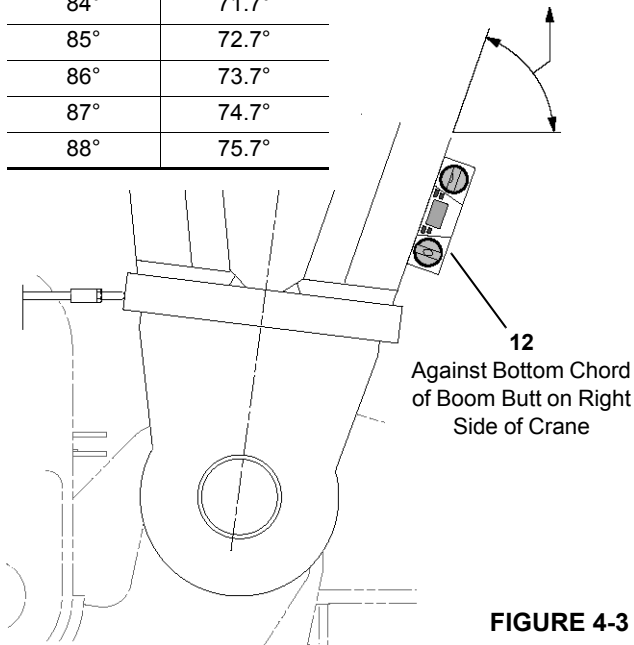

FIGURE 4-3
- Place an accurate digital level (12) on the boom butt as shown in Figure 4-3. The corresponding **Digital Level Angle** should appear on the digital level.